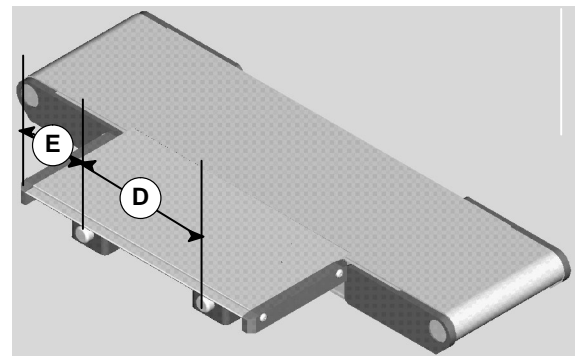

Figure 3
- Table support bar maximum distances (see Figure 3)